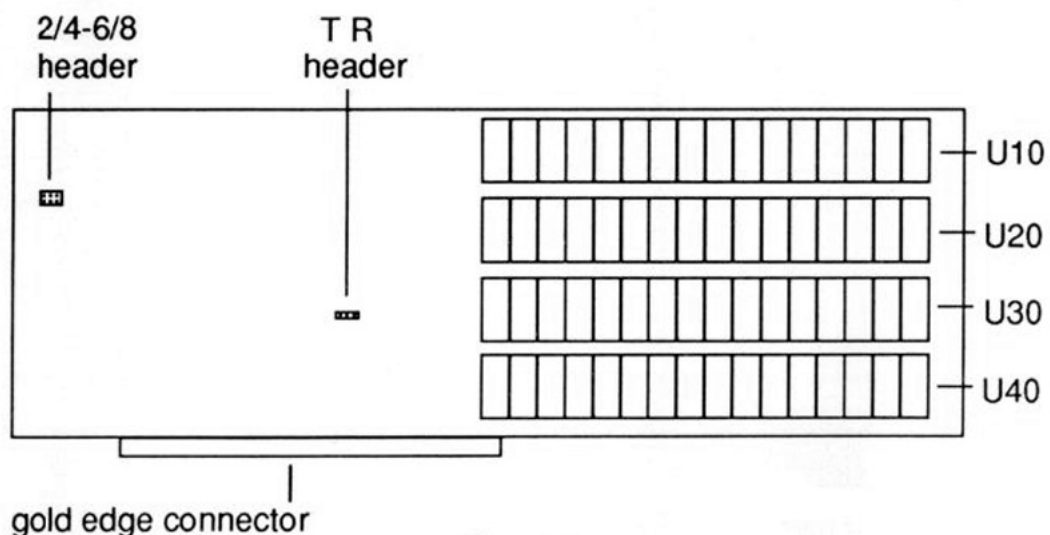

Figure 1
To indicate how much RAM is on the board, first locate the header marked 2/4-6/8 on the SupraRAM 2000 board. (It's shown in Figure 1.) Then move the two jumpers so they accurately indicate how much RAM the board contains. To do this, place the jumpers next to the numbers printed on the RAM board as follows. If the jumpers are placed next to both of the 2 labels, 2MB is selected; if they are next to both of the 4 labels, 4MB is selected, and so on. Two examples of this system are shown below (both are top views):
1. Locate the three-pronged header marked **T R** in the center of the RAM board (shown in Figure 1). This is the memory test header. Move the jumper to the **T** position to enable test mode.